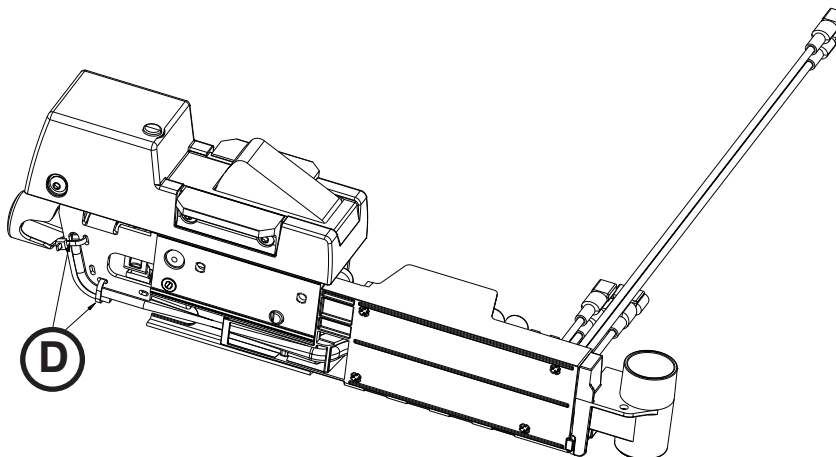

Figure 100
10. Using diagonal pliers, cut the cable ties (D) that secure the coil wires to the wire management strap (Figure 100).